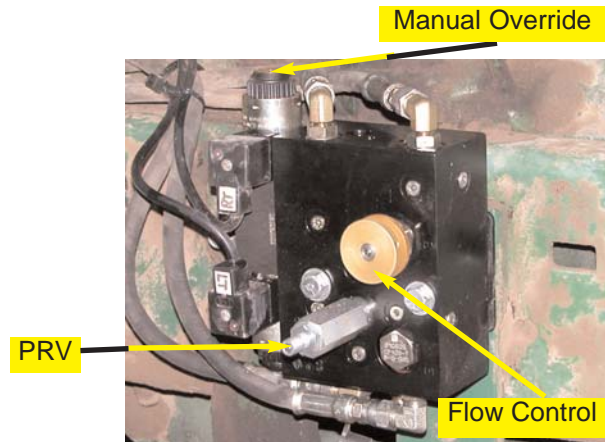

Figure 6. Automated Steering Block control.
- d. The coils on the Automated Steering Block have manual push button overrides. Push either manual override to move the tractor wheels all the way to one extreme. (Figure 6.)